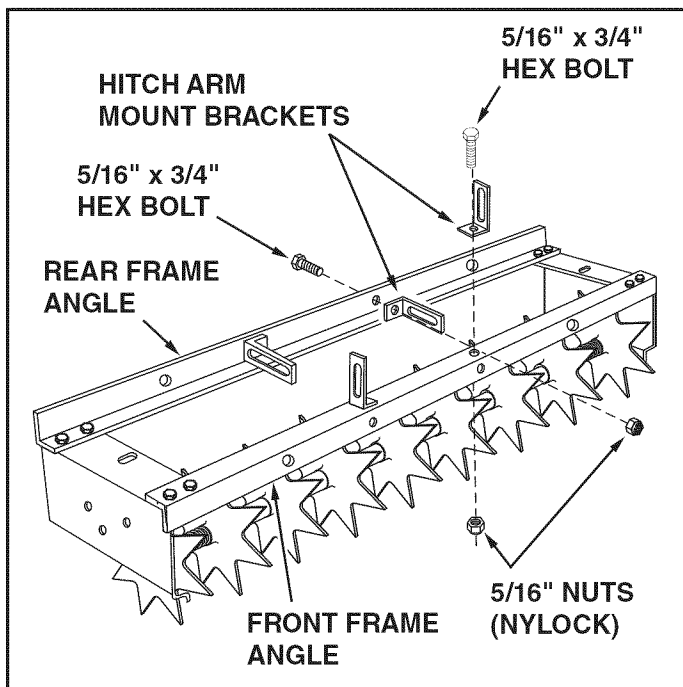

FIGURE 6
- Attach two hitch arm mount brackets to the middle holes in the rear frame angle using two 5/16" x 3/4" hex bolts and two 5/16" nylock nuts. **Do not tighten completely.** See figure 6.
- Attach two hitch arm mount brackets to the middle holes in the front frame angle using two 5/16" x 3/4" hex bolts and two 5/16" nylock nuts. **Do not tighten completely.** See figure 6
- **Tighten** the bolts assembled in figure 6.